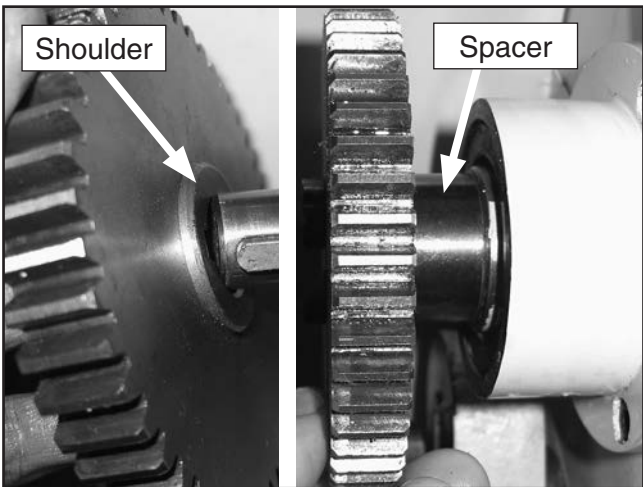

Figure 66. Upper spindle gear and spacer positioning.
- Slide the spacer onto the spindle, then the 48-toothed gear with the shoulder facing the spacer (**Figure 66**). Install the spacer washer, and secure with the cap screw.